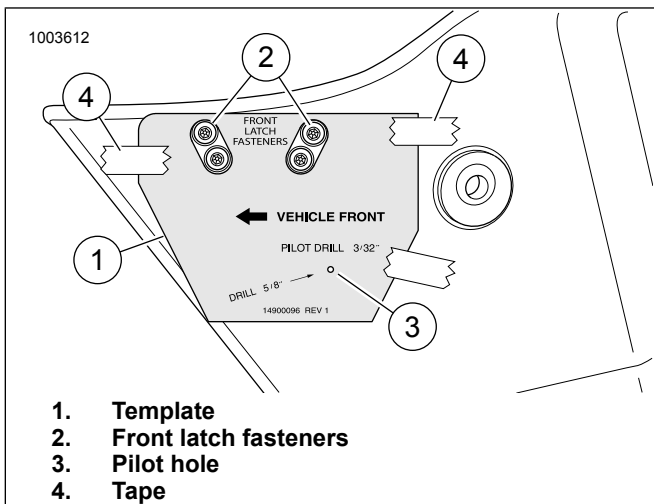

Figure 18. Template and Saddlebag
4. See Figure 18. Place template (1) on outside front of saddlebag. The template oval holes fit over front latch fasteners (2). Secure the template with tape (4).
5. Drill a 1/8 in pilot hole (3).